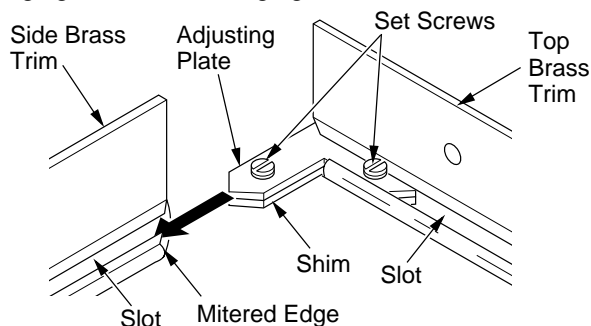

Figure 6 - Assembling Brass Trim
3. Align shim under adjusting plate as shown in Figure 6.
4. Slide one end of adjusting plate/shim in slot on mitered edge of top brass trim (see Figure 6).
5. Slide other end of adjusting plate/shim in slot on mitered edge of side brass trim (see Figure 6).